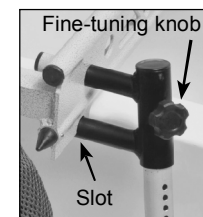
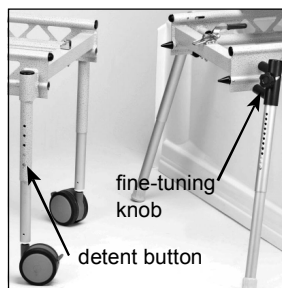

Figure 12
Figure 15
- Unfold the tub base legs by pulling the legs out and rotating them into position. Each leg is in position when it locks into the slots at the bottom of the frame rail (Fig 12).
2. Adjust the leg height of the tub base so the frame tubes are at the same height as the rolling base and both are aligned when positioned end to end (Fig. 15).
3. Make rough adjustments ( $\frac{3}{4}$ " ) with the detent buttons (Fig. 15), or make fine adjustments by loosening the back knobs (refer back to Fig. 12) and turning the legs to the desired height. Tighten the adjusting knobs when the height is set.